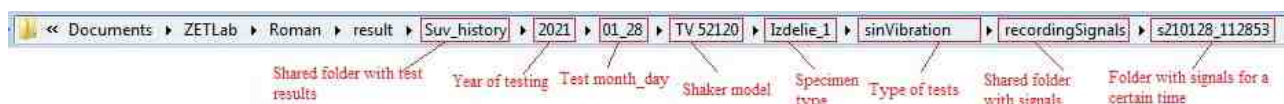

Fig. 14.2 Example of directory location of a folder with registered signals
1. After which activate "Choose directory" and in the window that opens, set the directory of the location of the folder with the registered signals. To determine the directory of the location of the folder with the registered signals, you should use the VCS Panel activate the "Tests results" menu, from the opened directory go to the folder with the signals of interest in accordance with the example given on Fig. 14.2.